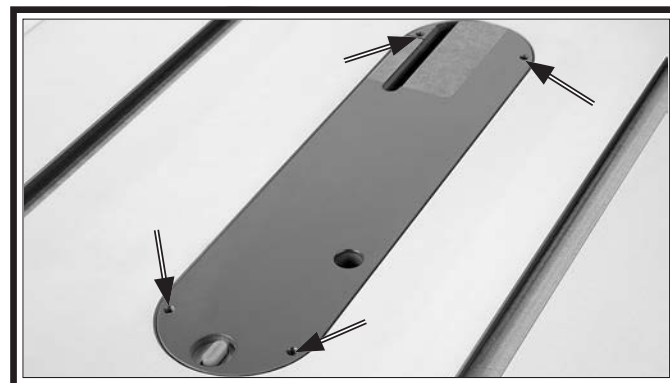

Figure 143. Location of table/dado adjustment screws.
3. Turn adjustment screws in table insert (clockwise to raise, counterclockwise to lower) until insert is flush with table (see **Figure 143**).